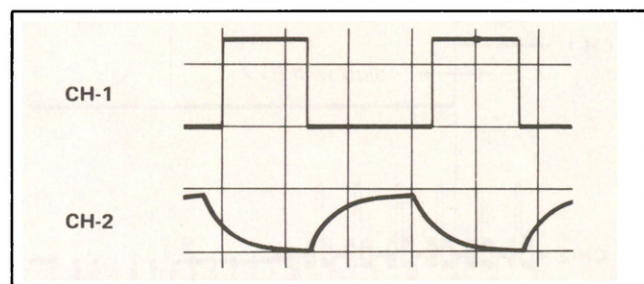

Fig. 4-5. Drum free speed adjustment
- (1) Insert a cassette and set up the REC mode Beta II or Beta III.
- (2) Connect the oscilloscope CH-1 probe to pin 6 of IC1 and its CH-2 probe to pin 7 of IC1.
- (3) Check that the RF waveform is locked as shown in Fig. 4-5.